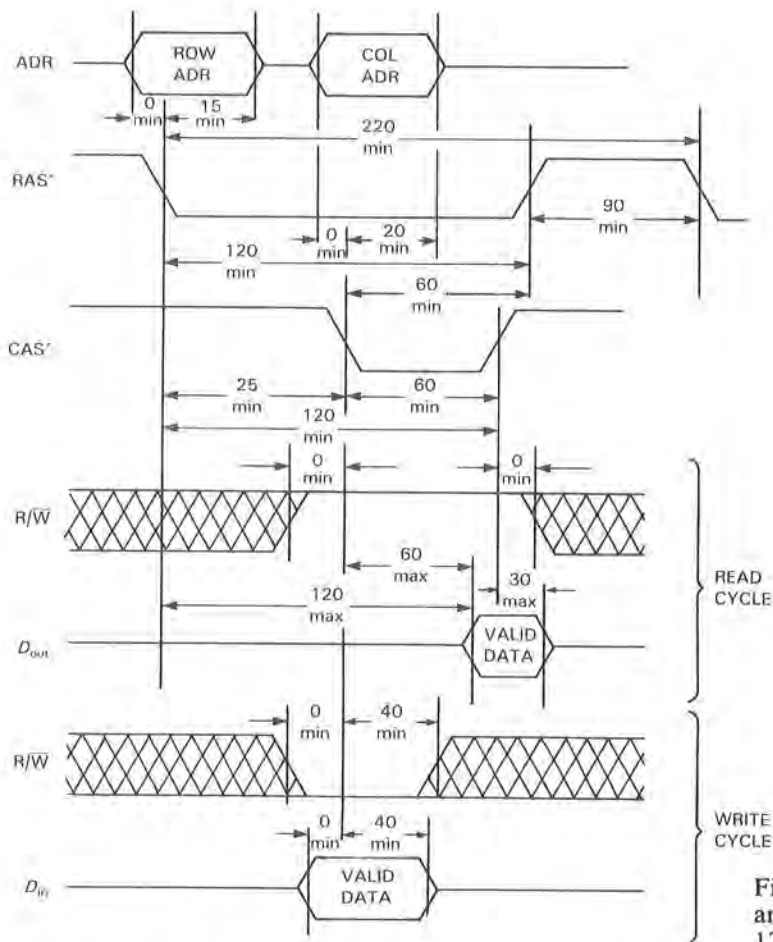

Figure 11.31. DRAM READ and WRITE cycles (Hitachi, 120ns).
**Dynamic RAM.** By comparison with SRAM, DRAM is a royal headache. Figure 11.31 shows a normal cycle. The address (e.g., 20 bits for 1M DRAM) is split into two groups and multiplexed onto half the number of pins, first the “row address,”